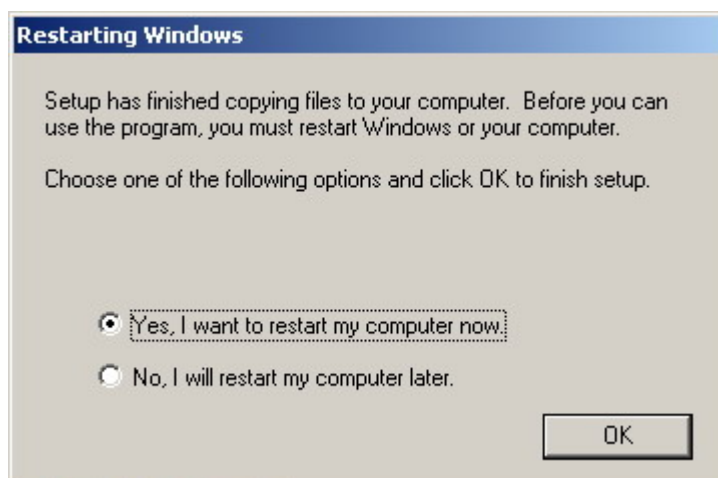

Figure 6-8: Restart the Computer
Step 9: The drivers are then installed onto the system. After the installation is complete the user is prompted to restart the computer now or later. (See **Figure 6-8**)